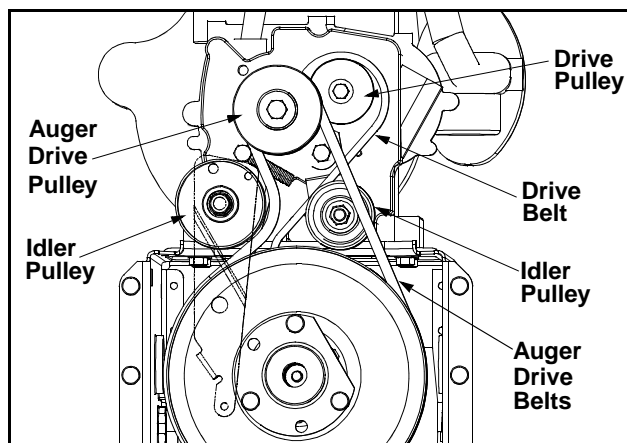

Figure 21
5. Roll the front and rear auger belts off the engine pulley. See Figure 21.
2. Pull idler pulley up, and lift belt off engine pulley and friction wheel disc. See Figure 21.